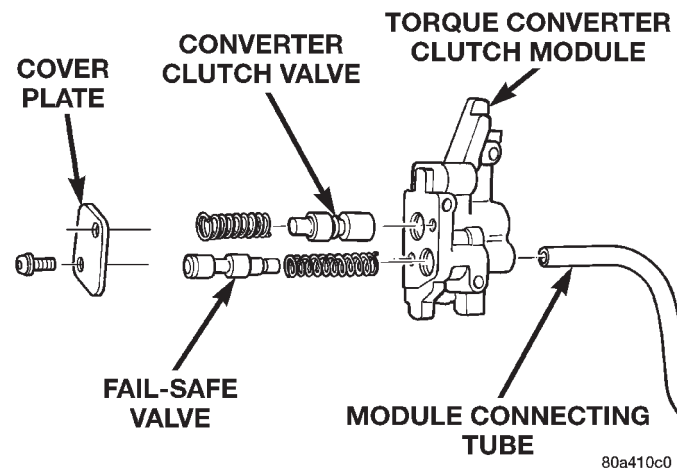

Fig. 47 Converter Clutch and Fail Safe Valves
(13) Remove screws attaching end cover plate to torque converter module (Fig. 47).
(14) Remove converter clutch valve, fail safe valve, and springs (Fig. 47)